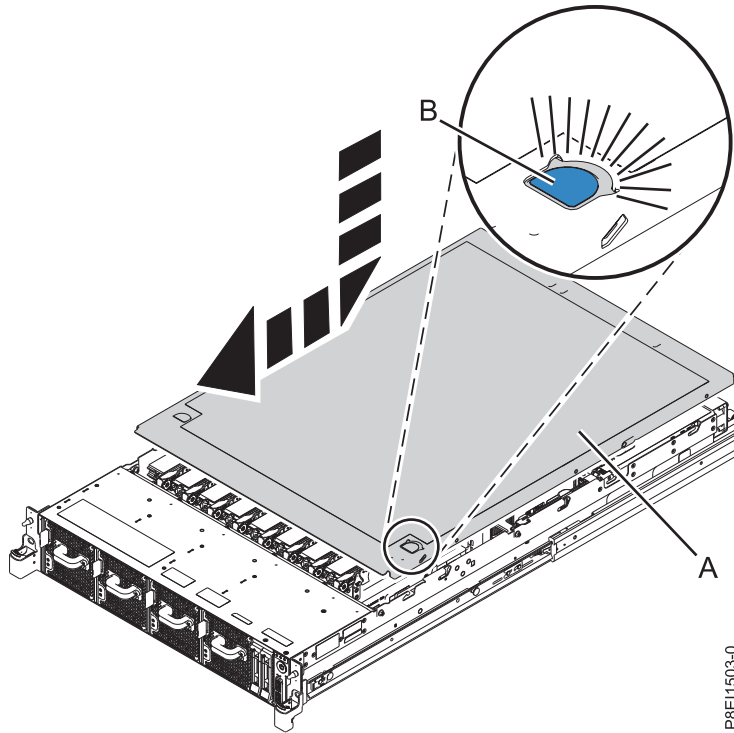

Figure 123. Installing the service access cover
1. Place the cover (A) on to the system unit such that the alignment pins on the cover are aligned to the slots on the chassis.
2. Press down to engage the pins and slide the cover to the front of the system until the blue release latch (B) locks in to place, as shown in Figure 123 on page 123.